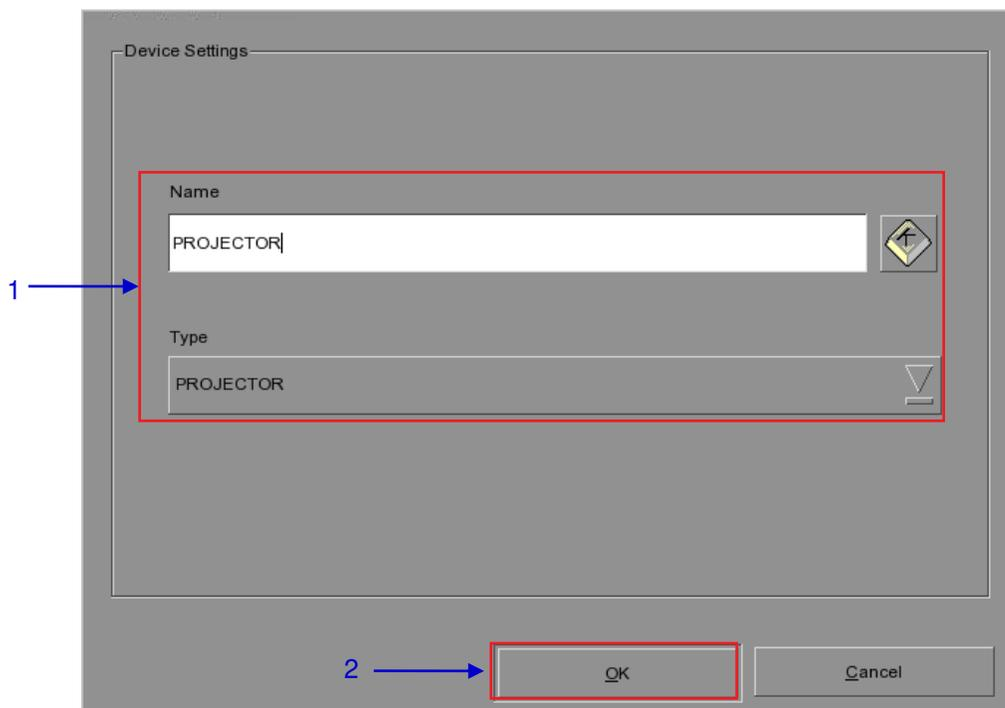

Figure 42 Projector automation device setup.
2. Click **[OK]** and set up the device parameters for the projector device (see Figure 42).